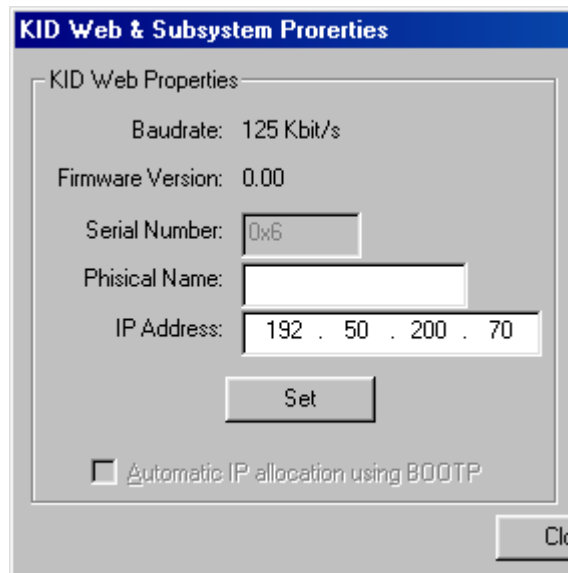

Fig. 5.5
- ◆ **IP address** – The customer’s network IP address must be entered here. In case your PC has an IP address, for example 192.200.140.10 then the IP address to be allocated to the KID Web will be 192.200.140.11 **if this number (11) was not already used for some other device in the network**. Fig. 5.5 illustrates an IP address used in this Manual for demonstration purposes.